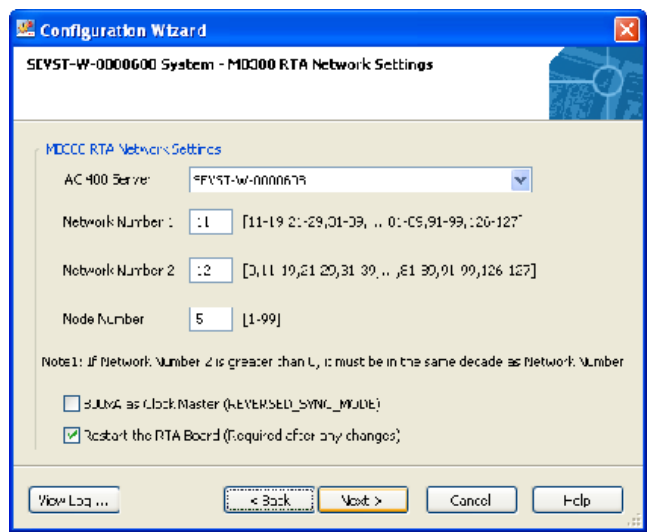

Figure 30. MB300 RTA Network Settings Dialog Box
5. The MB300 RTA Network Settings dialog box shown in Figure 30 appears. Select the name of the 800xA for Advant Master Connectivity Server in the **AC 400 Server** drop-down list box.